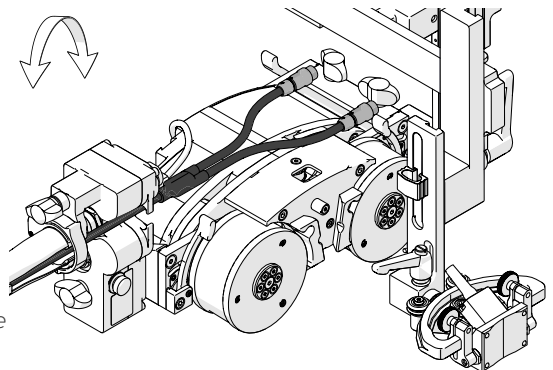

Fig. 214 - Route the 3-axis encoder cable through the cable management
11. Route the 3-axis encoder cable (Fig. 214) through the cable management (see "Cable Management" on page 122).